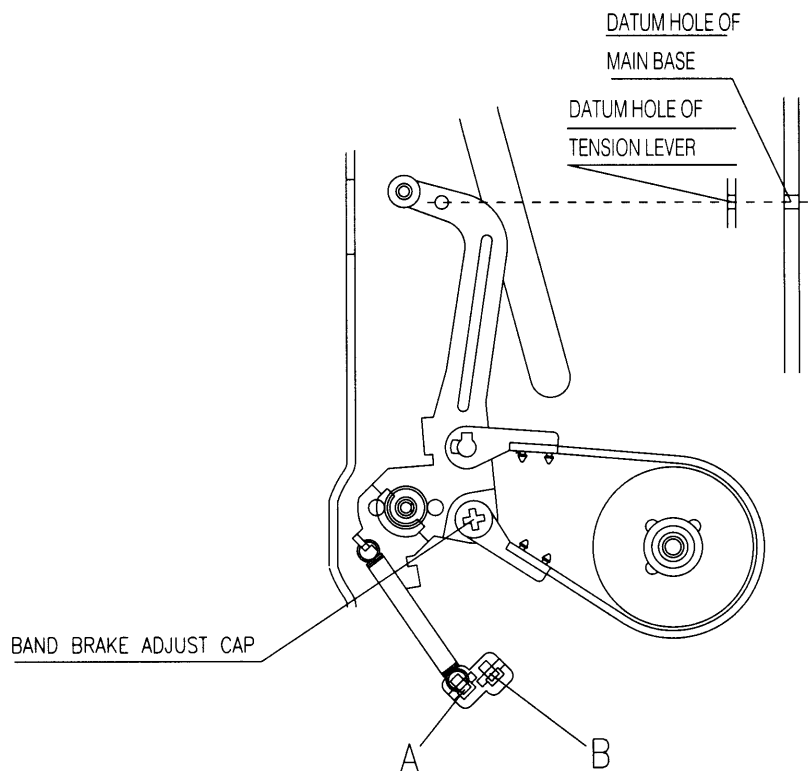

Fig. 4-7 TENSION POLE POSITION ADJUSTMENT
- If the measuring result is not within this specification, refer to the NOTE below or repeat "4-4 TENSION POLE POSITION ADJUSTMENT". (Fig. 4-7)